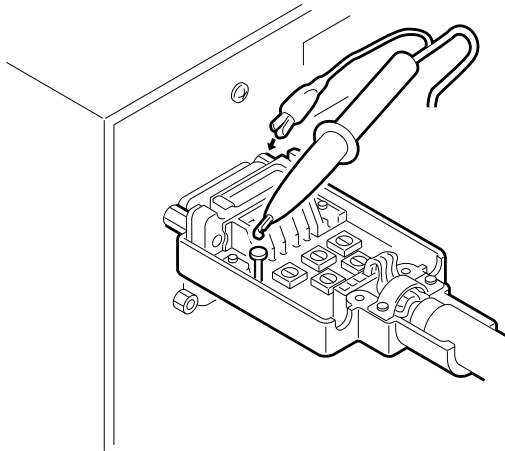

Fig. 2
- ① Insert the preamplifier into the counter and turn on the counter.
- ② Connect an oscilloscope probe to the PM terminal on the preamplifier board and an earth clip to the connector receptacle screw. (Fig. 2)